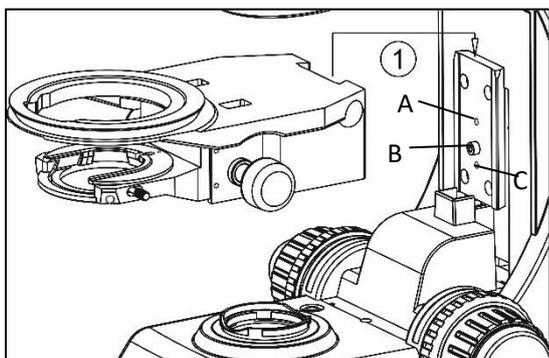
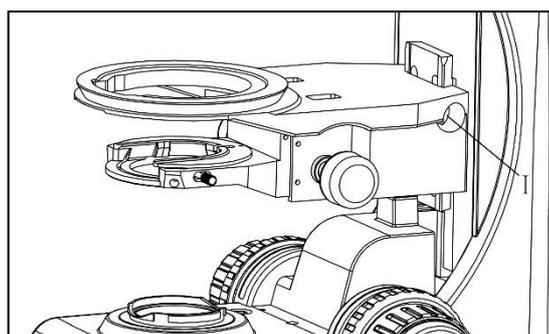

Fig.1
Fig.2
4-2-1 Mechanical carrier stage bracket installation (Fig.1, 2)
- ★ Rotate the coarse focusing wheel so that the dovetail of the frame rises until the limit screw exposure end face as shown in the figure, then install the stage bracket according to the path of serial number "C" in Fig.1. Align the dovetail groove of the stage bracket with the dovetail bulge of the rack in Fig.1, slide down naturally until lower level screw is limited. Then the screw of num1 in Fig.2 is screwed inward with a wrench.